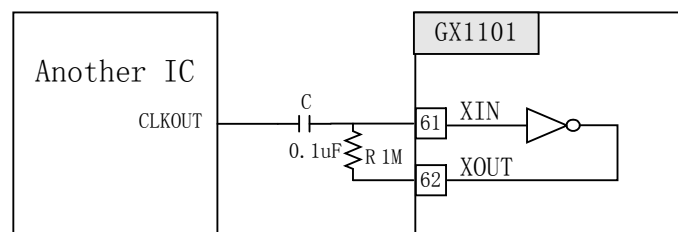

Figure 14 GX1101's Clock Driven by Another IC
- 3, GX1101's clock may be driven by another IC. To do this, please remove the crystal and the two capacitors, connect another IC's CLKOUT pin to GX1101's XIN pin through a 0.1μF capacitor, and remain the feed-back resistor (1Mohm). This circuit is shown in Figure 14.